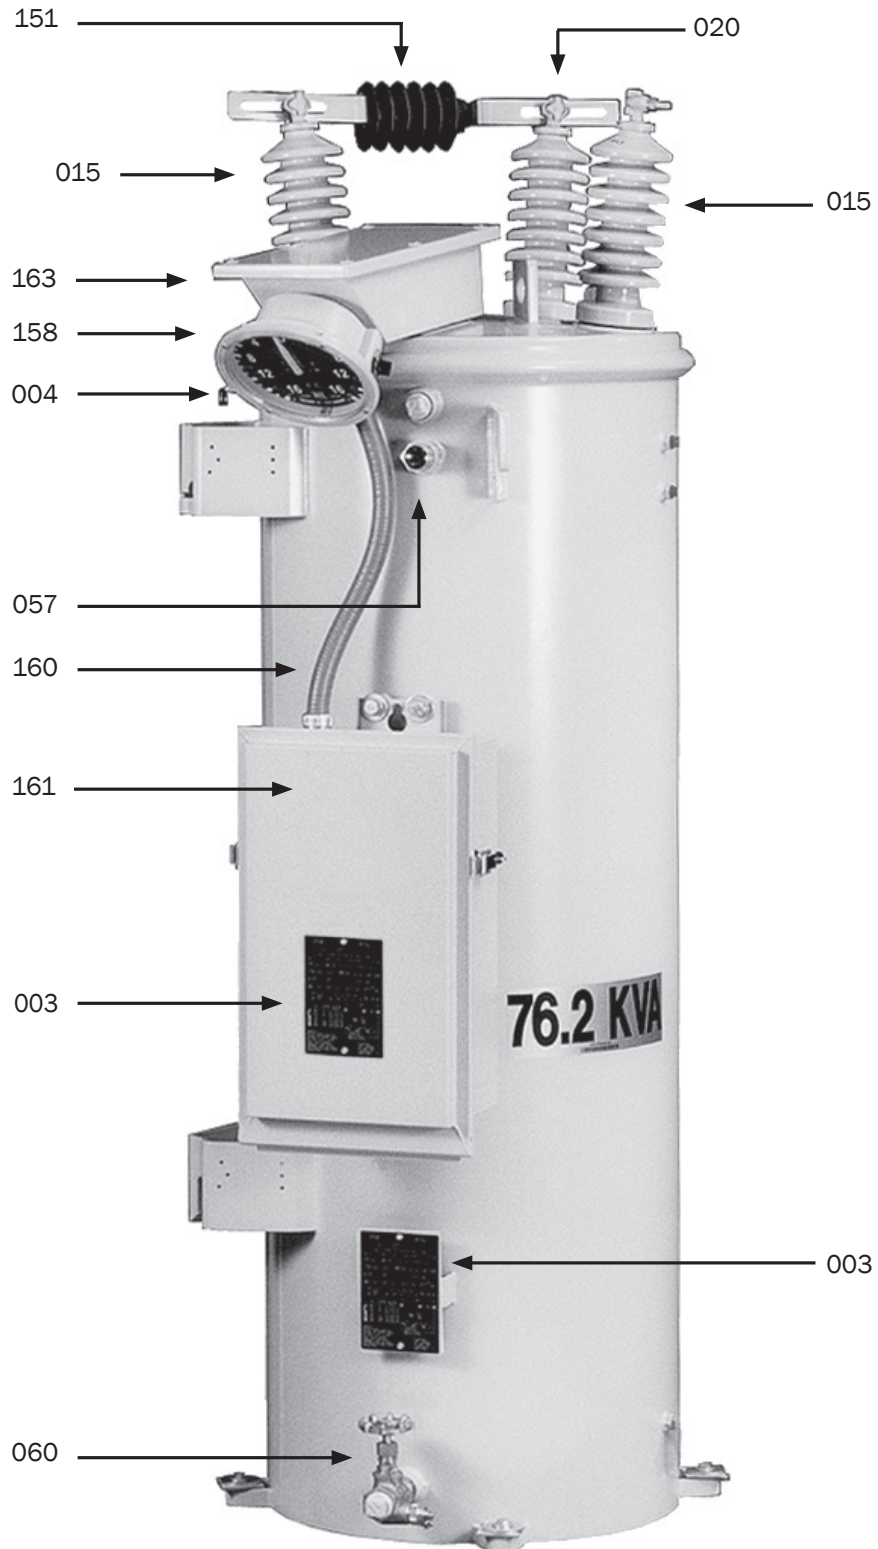

FIGURE 12: External Parts View - refer to Table 1 on the following page for parts description.
*Not shown in reference Figure 12